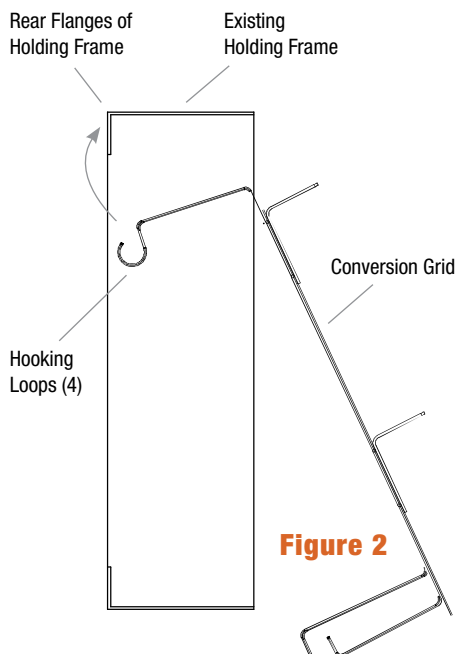

Figure 2
- 4: Install Conversion Grid as shown in Figures 2, 3, and 4.